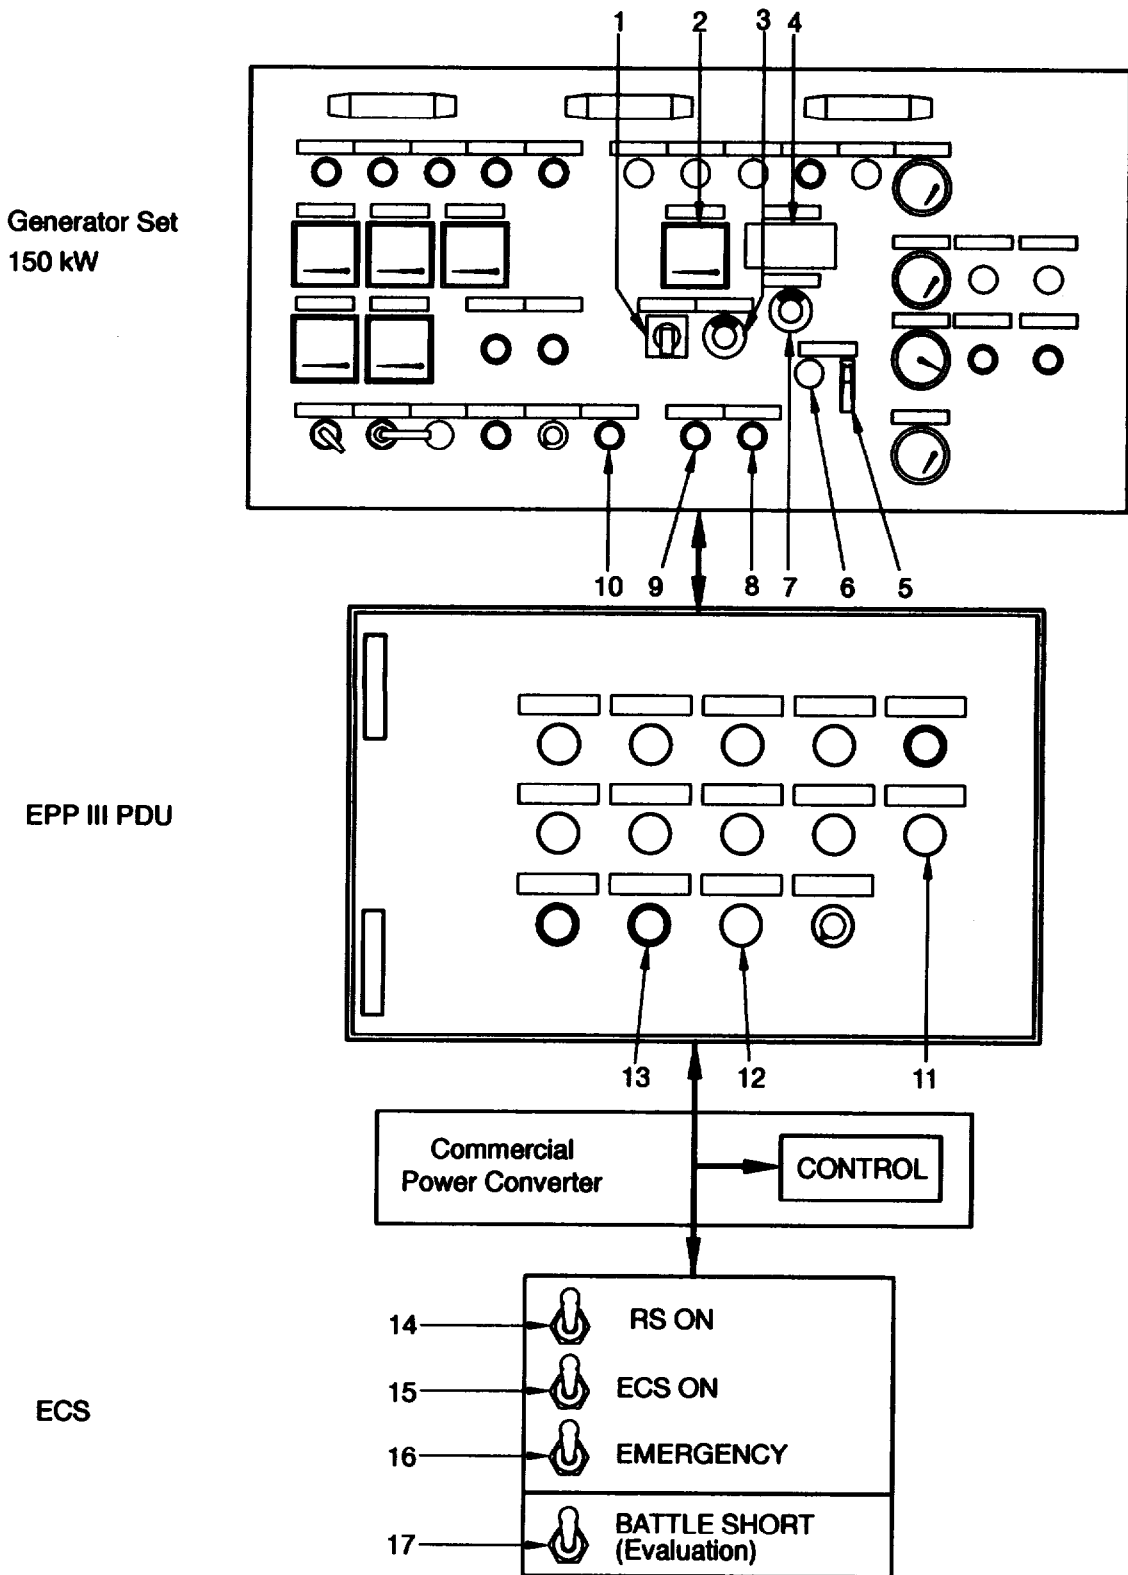

Figure 2-22 Switching Operating Mode Using EPP III and ECS Load Control Panels.
- b. Press PARALLEL OPERATION ON illuminated pushbutton switch (10, figure 2-22) on generator set. The PARALLEL OPERATION ON lamp (10) lights up. After synchronization, the second generator set is automatically switched on line and the PARALLEL OPERATION ON lamp (10) then goes out.
Press AC CIRCUIT INTERRUPTER OFF pushbutton switch (9, figure 2-22) on generator set (1 or 2). The generator set (1 or 2) will switch to idle and can then be shut down (paragraph 2.8.1).
Use control elements (4, 7, figure 2-22) to set frequency to 400.0 +/- 0.2 Hz
- b. Press PARALLEL OPERATION ON illuminated pushbutton switch (13, figure 2-22). The PARALLEL OPERATION ON lamp (13) lights up. Once changeover is complete PARALLEL OPERATION lamp (11) lights up, and PARALLEL OPERATION ON lamp (13) goes out. The EPP III generator is now providing power.
Set ECS ON switch (16, figure 2-22) and RS ON switch (14) to on.
Set EMERGENCY switch (16, figure 2-22) to On. AC CIRCUIT INTERRUPTER ON lamp (8) must go out.
- a. Turn BATTLE SHORT switch (6, figure 2-22) or (17) to On.